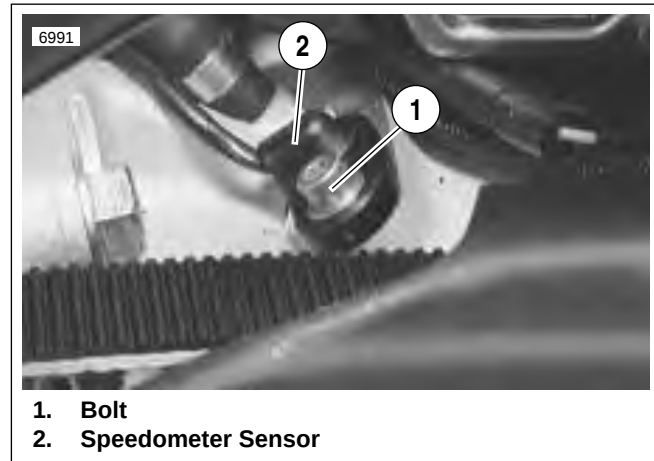

Figure 7-62. Speedometer Sensor
1. See Figure 7-62. Remove bolt (1) to detach speedometer sensor (2) from crankcase.
1. See Figure 7-62. Install bolt (1) to attach speedometer sensor (2) to crankcase.